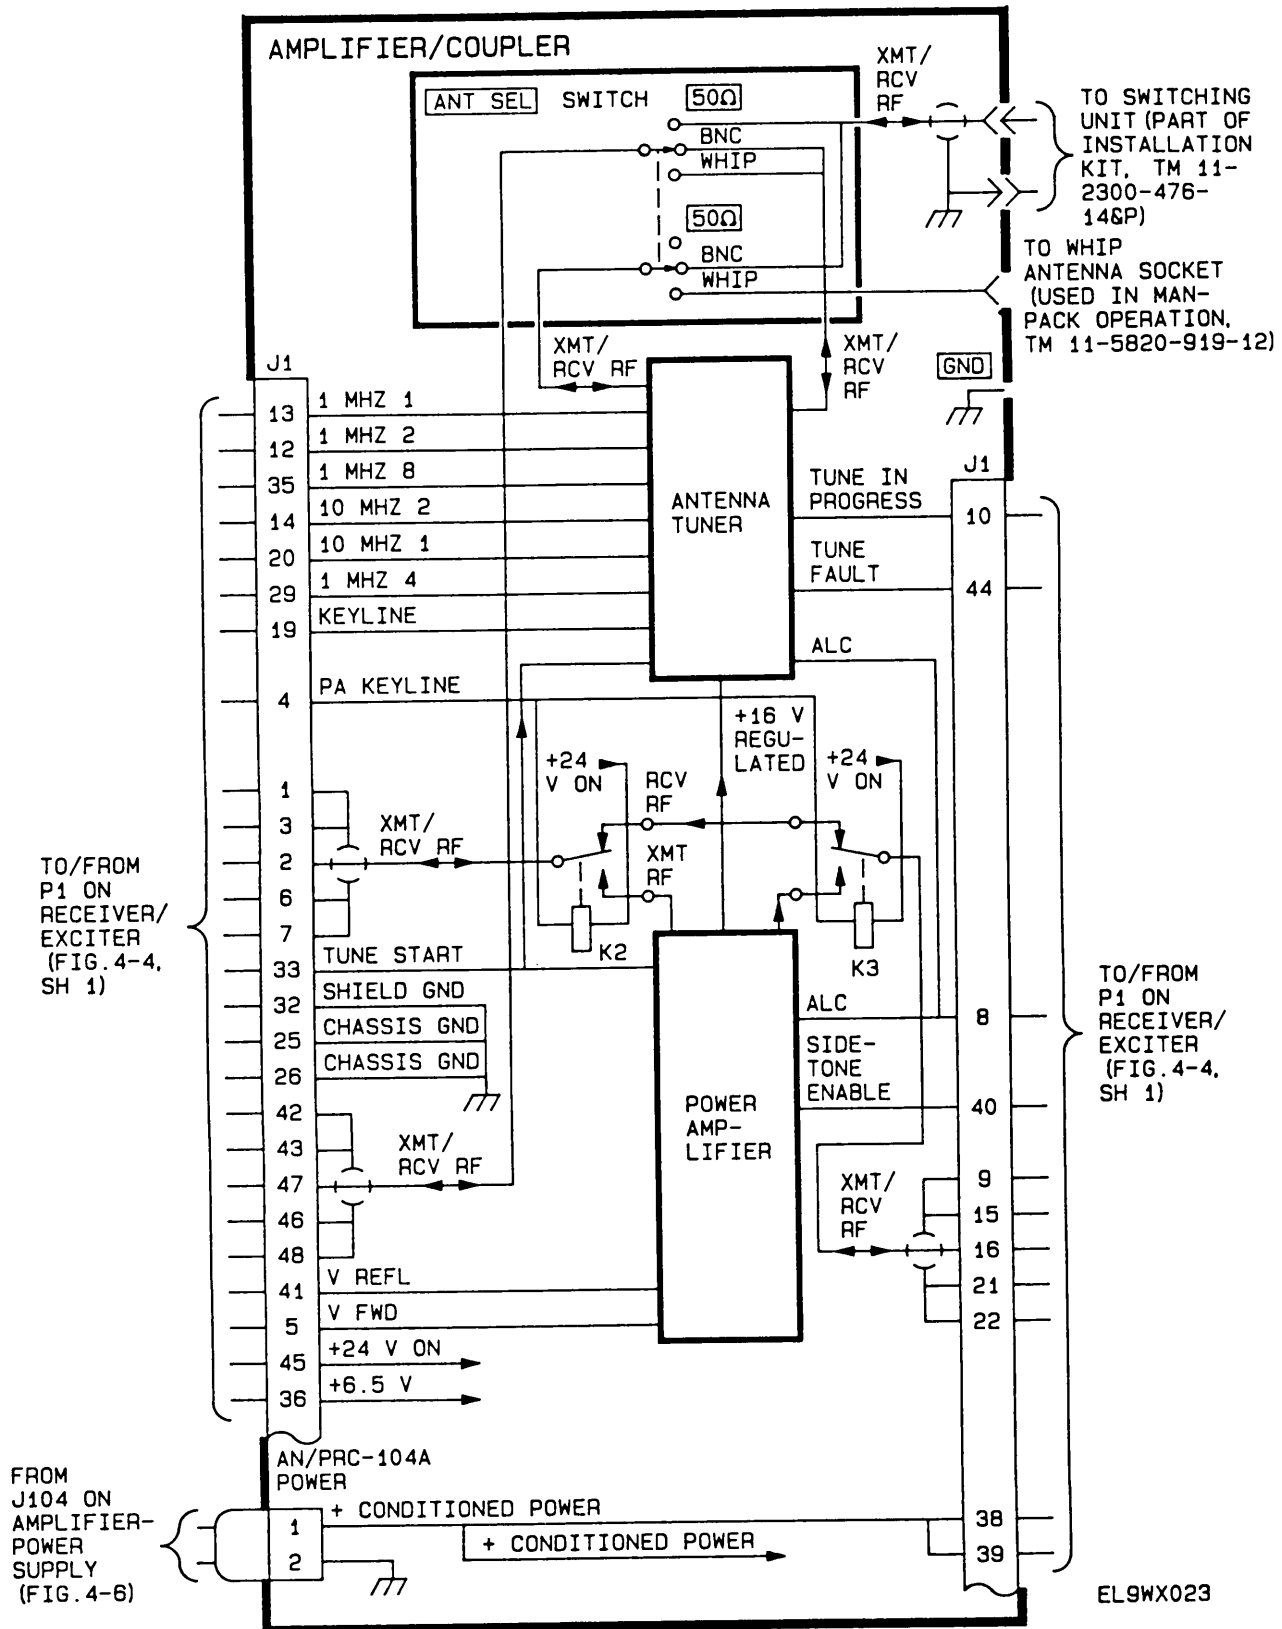

Figure 4-5. Amplifier/Coupler Functional Schematic
b. *Amplifier/Coupler.* (See fig. 4-5.) Figure 4-5 illustrates the amplifier/coupler signal routing and conditioning. The amplifier/coupler signals are discussed in the following paragraphs.